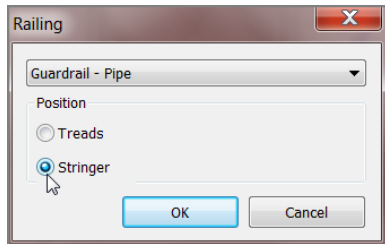

FIGURE 10.11: Select Guardrail - Pipe and the Stringer radio button.
2. In the Railing dialog box, from the drop-down, select Guardrail - Pipe, as shown in Figure 10.11.
3. Under Position, select the Stringer radio button (see Figure 10.11). Doing so hosts the railing to the stringer.